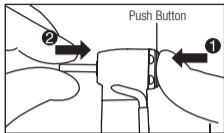

Fig. 3
- 1) Insert the bur into the chuck (Fig. 3).
- 2) Depress the Push Button to open the chuck ( ❶ ).
- 3) Insert the bur fully into the chuck until it stops( ❷ ) then release the Push Button.